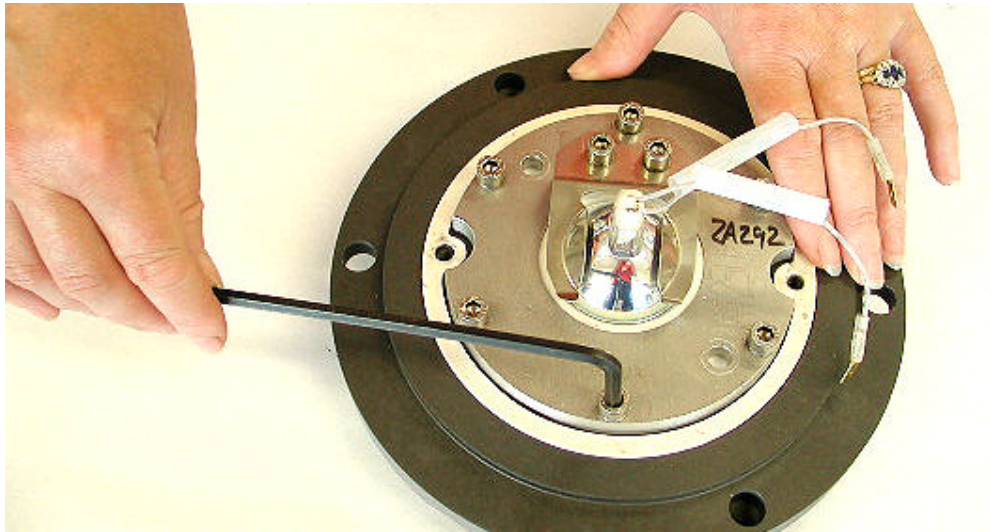

Fig. 7. ZA290 clamp securing screws.
- Remove the six M6 socket head screws (17) using a 5mm A/F Allen Key. See **Fig. 7.**
- Release the prism clamp (6), gasket (15), lamp (20), lamp retaining spring (23) and lamp gasket (22).
- Ensure that the prism clamp gasket (15) and prism clamp (6) mate with the underside of the body casting (1).
- Tighten prism retaining clamp screws (17) progressively, to a torque of 9.04 Nm (80 lbf ins). See **Fig. 7**.